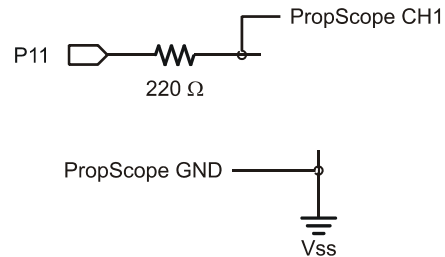
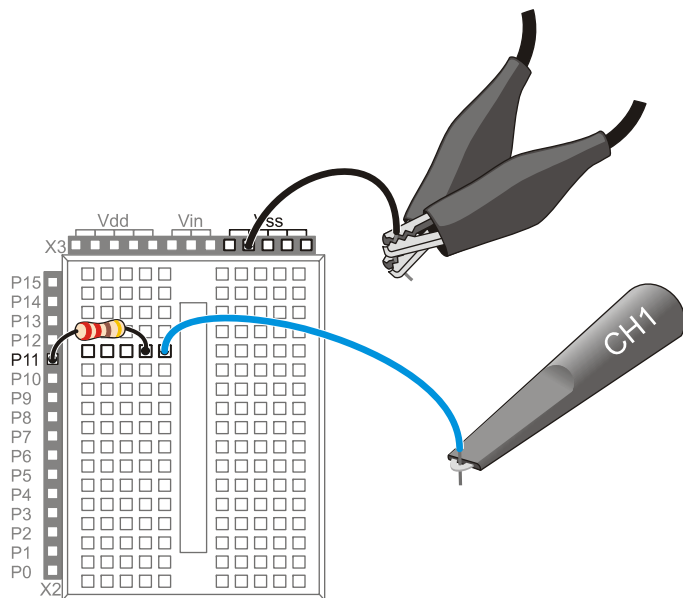

Figure 6-5
Figure 6-6
Figure 6-5 shows the test circuit and Figure 6-6 shows a wiring diagram example.
- ✓ Build the circuit in Figure 6-5 using Figure 6-6 as a guide.
for Figure 6-5